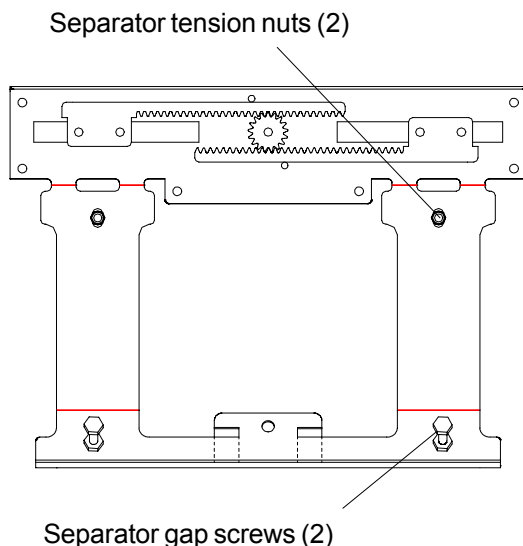
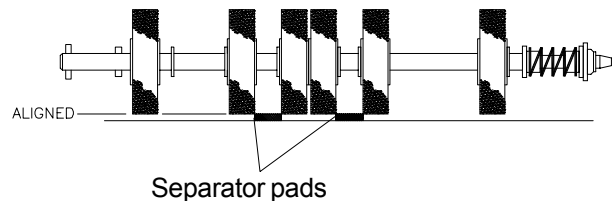
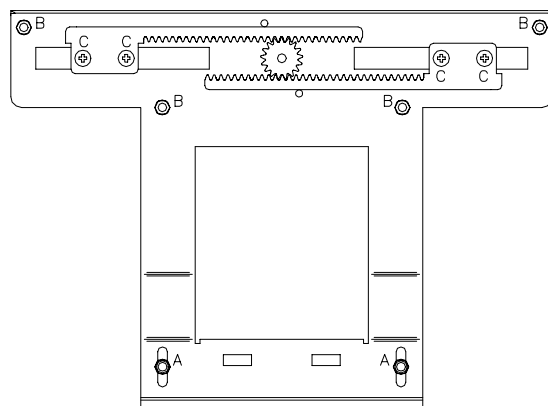

Fig. 3
Fig. 4
Fig. 6
The insert hopper has two adjustments, one for the separator gap, the other for the tension of the plate holding the separator pads. The separator plate is located below the insert hopper. To gain access, lower fold plate 1 under the hopper and open the clamshell. Remove the 4 countersunk head screws holding the upper part of the foldplate and lower it down. The separator plate is shown in Fig. 3 below (viewed as from directly underneath).
The gap should be set so that when looking down the insert hopper tray, the tops of the separator pads are aligned with the bottom of the pickup rollers, as shown in Fig. 4 below. If adjustment is required, equally turn the separator gap screws shown in Fig. 3 until the setting is correct.
To adjust the gap, withdraw the electrics chassis (see section 3.1.2). As an initial setting, visually align the tops of the pads with the bottom of the pickup rollers, as shown in Fig. 4. Then adjust the nuts 'A' shown in Fig. 6 below (viewed from directly underneath the plate) until an envelope will firmly drag as it is passed through the gap.
1. Remove the nuts marked 'A' & 'B' and the screws marked 'C' in Fig. 6 above. Withdraw the plate and strip off the guide rack plates and pinion.